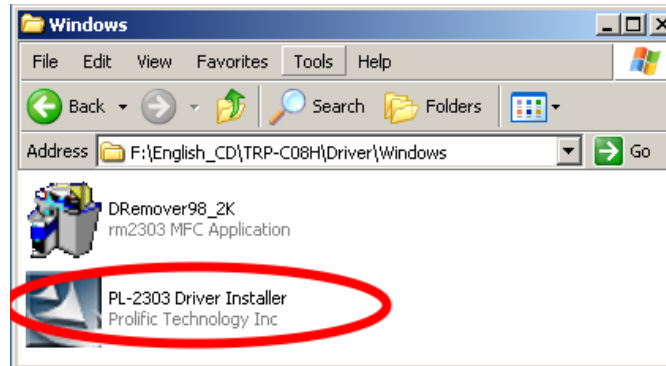

Fig. 1
2. Put the driver CD in the CD-ROM then run the PL-2303 driver (See Fig.1 and 2)